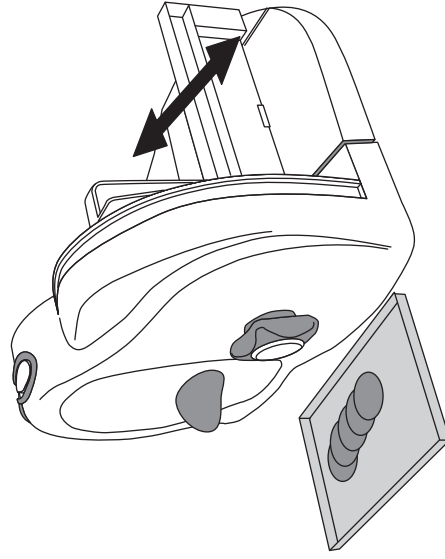

fig. 8
6. Place a Food Tray to the outside of the unit to catch the food as it is being sliced. **See fig. 8.**